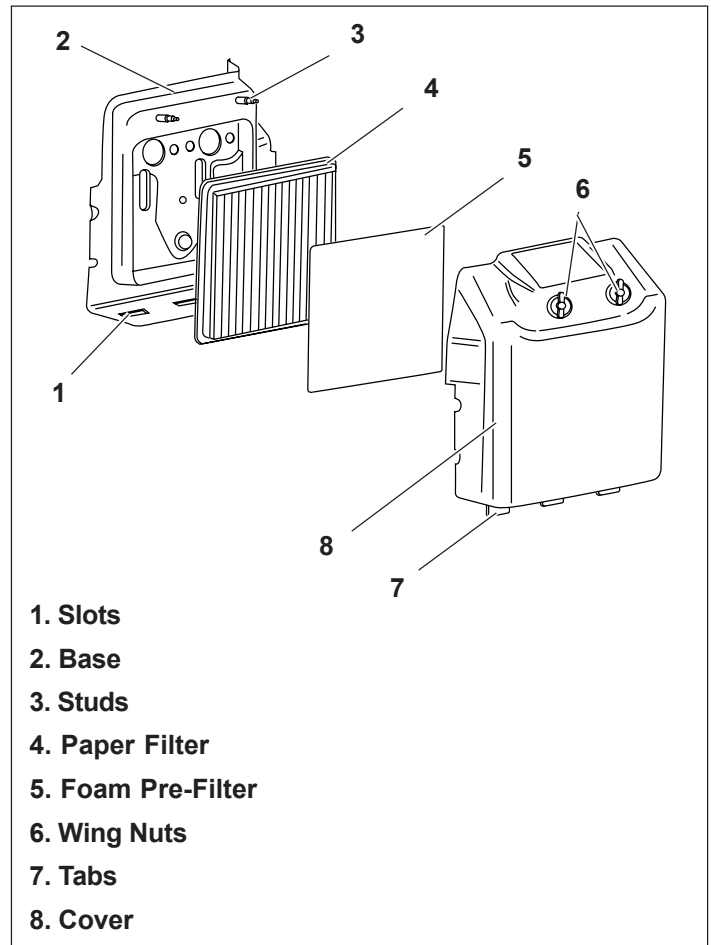

Figure 12. Air Cleaner Components
1. Remove wing nuts from air cleaner cover. See Figure 12.